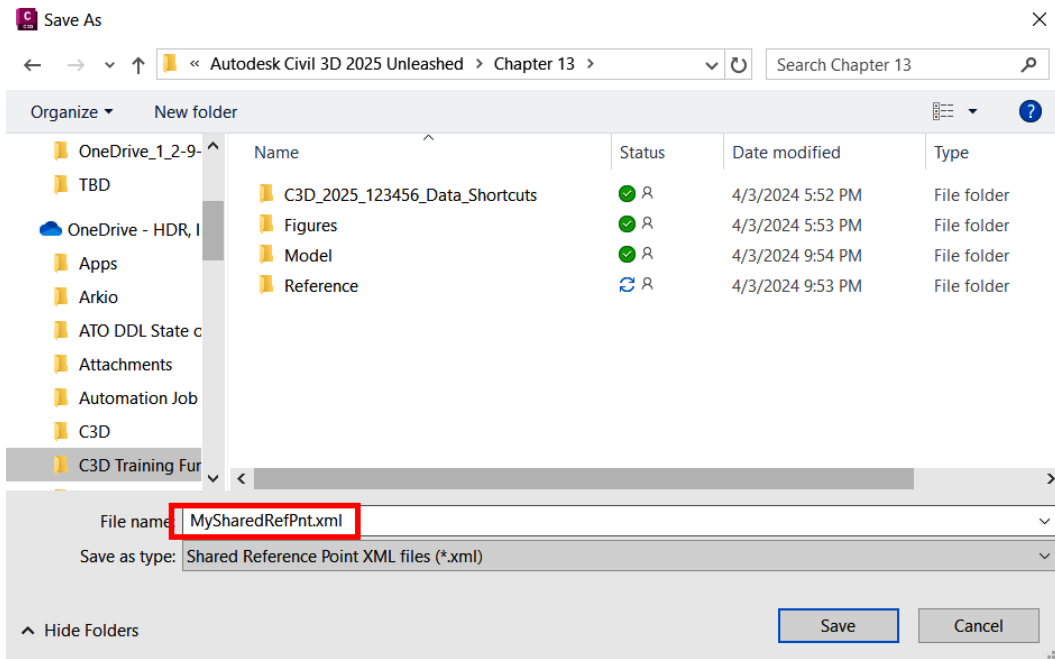

Figure 13.6 – Saving the Shared Reference Point file
11. Next, we'll be asked where we want to save it, at which point we'll navigate to our **Civil 3D 2025 Unleashed\Chapter 13** location and give it a name of **MySharedRefPnt.xml** and click the **Save** button, as shown in *Figure 13.6*.